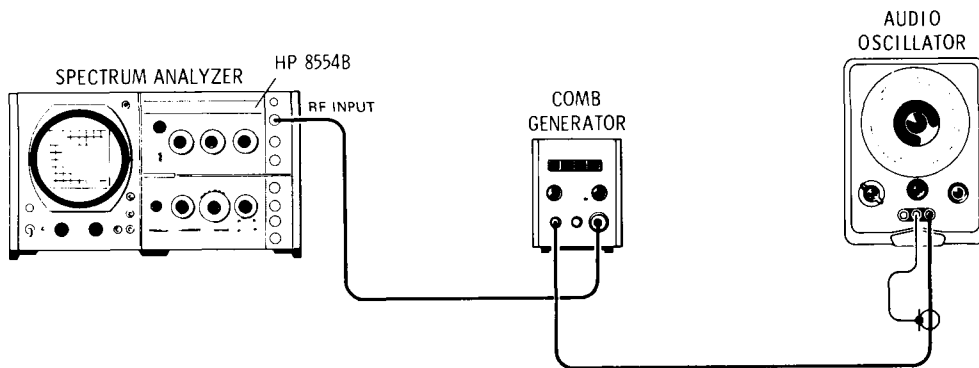

Figure 4-11. Scan Width Accuracy Test: 50 kHz/Div
- To test the 50 kHz SCAN WIDTH PER DIVISION setting, connect the test setup shown in Figure 4-11. Set controls as follows: